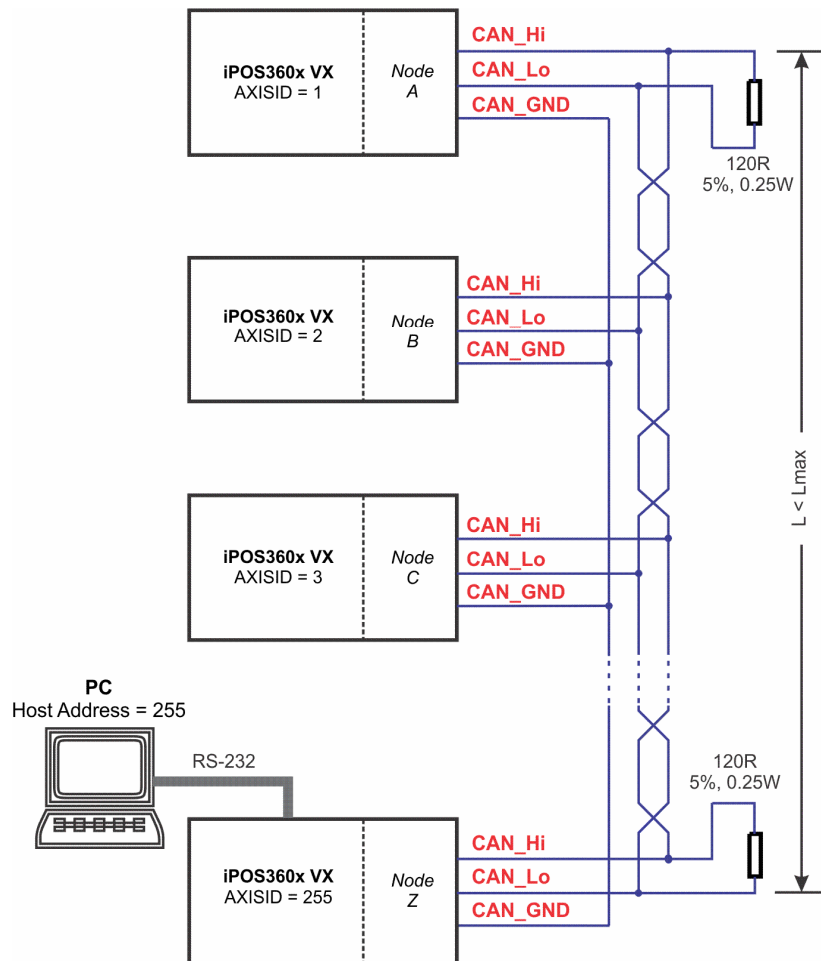

Figure 3.28. Multiple-Axis CAN network
1. The CAN network requires a 120-Ohm terminator. This is not included on the board. Figure 3.28 shows how to connect it on your network